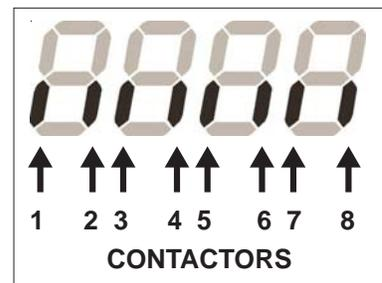

Figure 5-3. Contactor indication in DATA display
2. Use **right** DATA push button to select desired CONTACTOR. Corresponding segment of **lower** row in DATA display (Figure 5-3) and corresponding CONTACTOR LED will turn on.